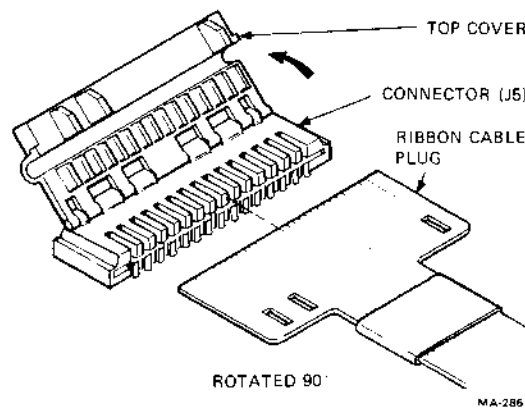

Figure 7-10 Printhead Ribbon Cable Removal
3. Remove the logic board safety cover to gain access to the printhead cable. Gently disconnect the printhead ribbon cable from J5 on the logic board by lifting the top cover off the plug (Figure 7-10).
The ribbon cable is keyed and must be reinstalled correctly to ensure proper operation (Figure 7-10).